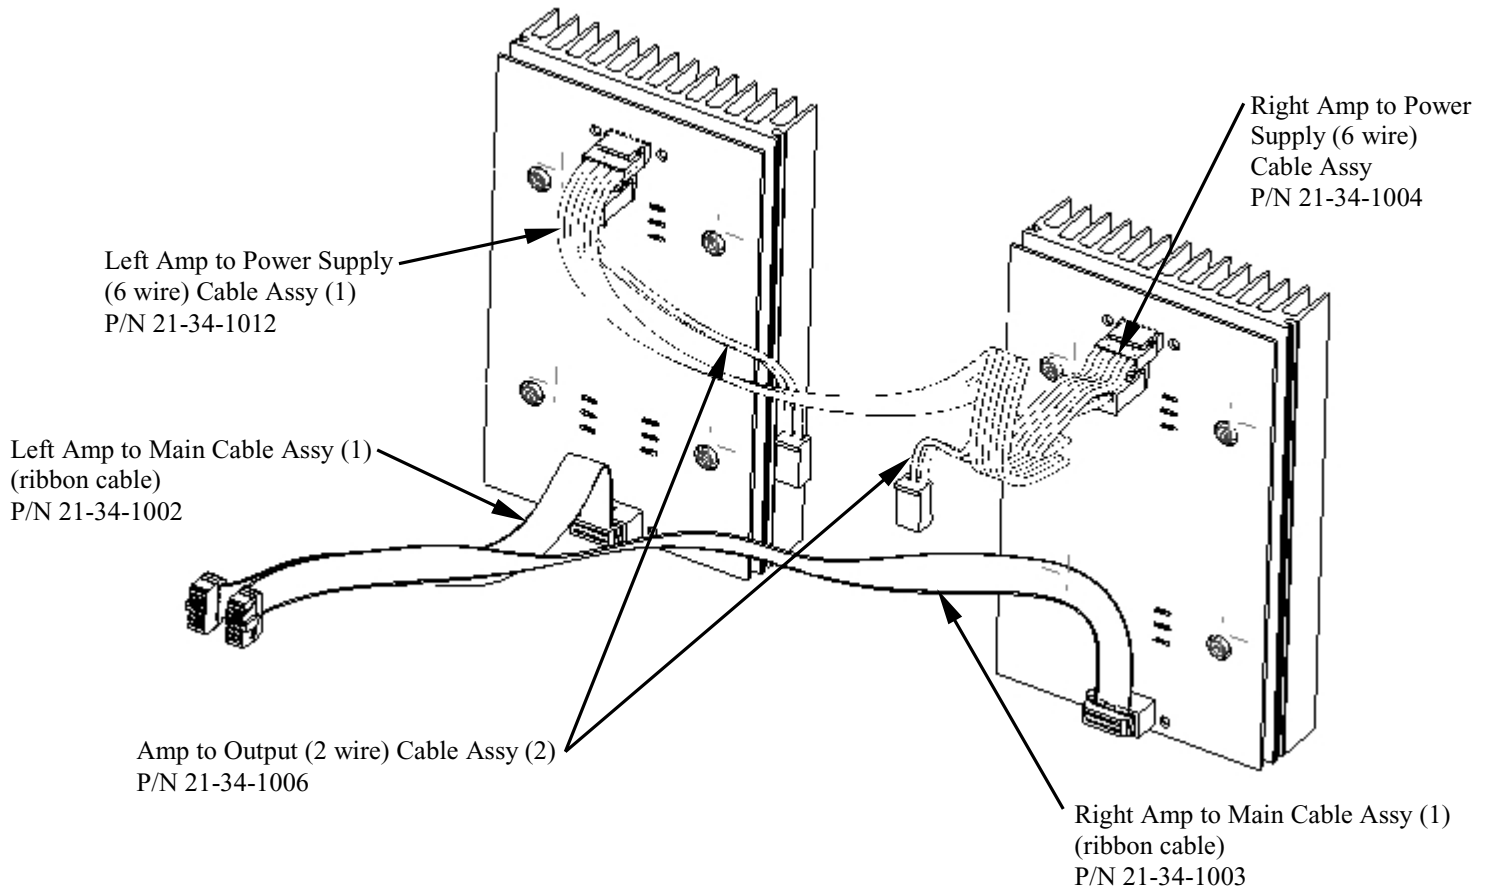

Figure 15
- a. Install cable assemblies onto the Power Amplifiers. See figure 15.